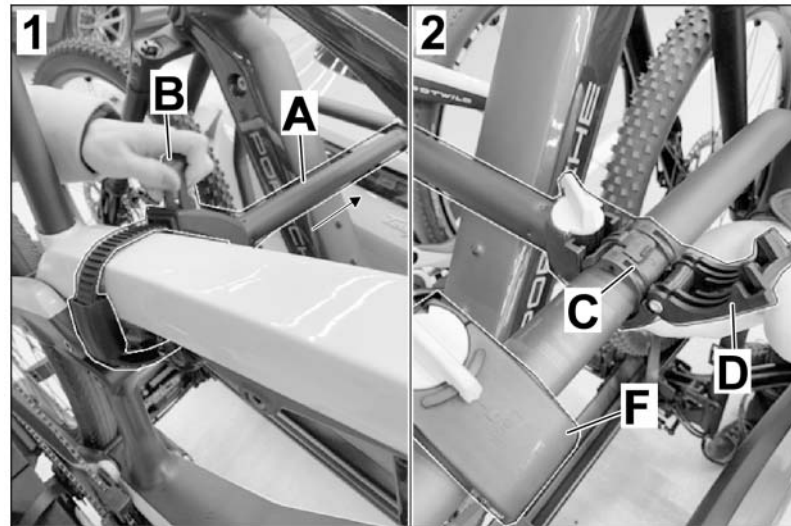

Figure 22
22. – Push the spacer (long) ⇒ *Figure 22 -LHD vehicle* - through the frame of the front bike. Fit the spacer on the support bar, making sure that the protective rubber ⇒ *Figure 22-Item C*- is seated correctly on the support bar and fits perfectly in the claw of the spacer. If this is not the case, the rubber must be turned gradually. Fold down the cover ⇒ *Figure 22-D*- on the spacer and lock it ⇒ *Figure 22-F*-. Place spacer on the frame of the second bike ⇒ *Figure 22 -RHD vehicle* -. The locking mechanism ⇒ *Figure 22-F*- must be at "Lock" position so that the locking strap can be guided out and into the latch. Insert locking strap into the spacer and tension it. Then, lock the locking lever ⇒ *Figure 22-RHD vehicle* - with the key in lowered position. To loosen the locking strap, press the white lever firmly towards the lock and pull the locking strap out of the ratchet. If the "Lock" lever is turned slightly, the locking strap cannot be pulled out.